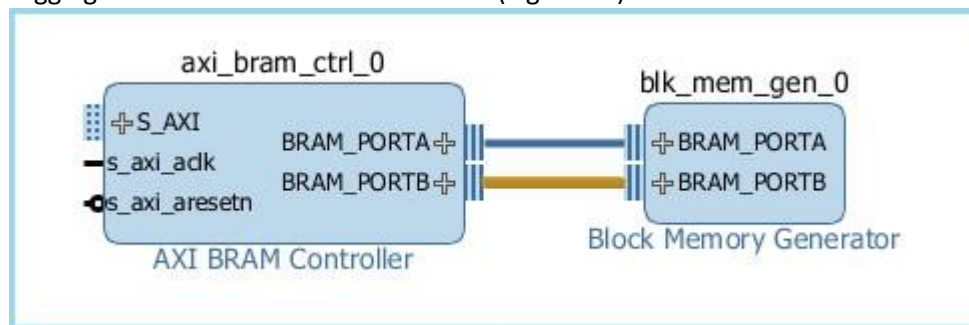

Figure 12: Connected AXI BRAM Controller and Block Memory Generator.
3. Connect the Block Memory Generator to the AXI4 BRAM Controller by clicking the connection point and dragging a line between the two IP blocks (Figure 12).